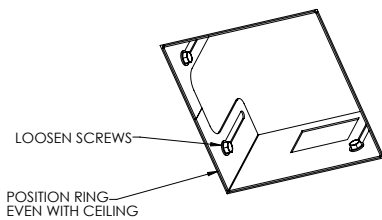

FIGURE 4
1. With finished ceiling or tile in place, loosen adjustment screws (see Figure 4) and position ring even with ceiling. Re-tighten screws securely.